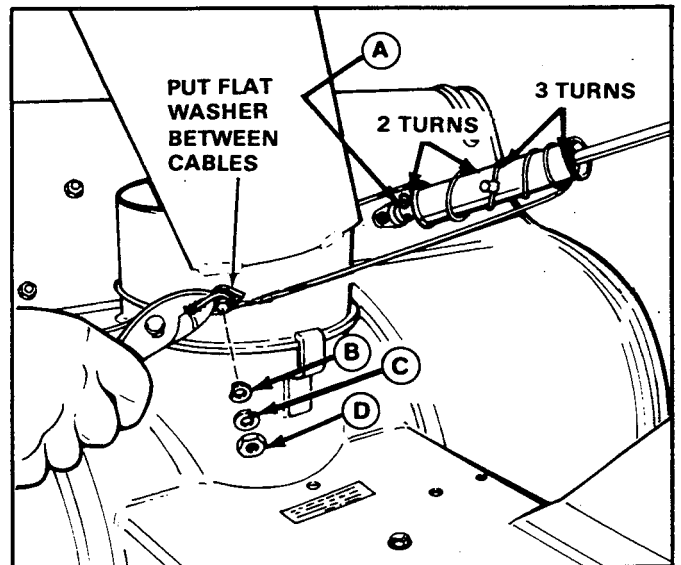

Figure 17. Install Control Cable
2. Insert the end of the spout control rod (H) through the plastic pivot bearing (D) on the auger housing. Place a cotter pin in the lowest rod hole on the inside of the housing. Spread the cotter pin fully around the rod. Pull the rod back so the cotter pin is up against the bearing and insert another cotter pin through the rod just above the bearing. Spread the cotter pin fully around the rod.
3. Place the thin plastic rod guide liner (B) inside the rod guide (J). Place the rod guide over the spout control rod and attach the rod guide to the support arm with the 1-1/2 inch (38 mm) long capscrew and locknut provided. Install the locknut flush with the end of the capscrew.
4. Install the spout extension (A) on the snowthrower housing so the clip (G) is positioned in the notch (I) on the spout extension. Oil the spout extension so it turns freely.
5. With the spout extension facing slightly left, wind the cable around the control rod spool as shown in figure 17. Wind three turns on the rear part of the spool so that the cable leaves the spool on the lower edge as shown. Wind two turns on the front part of the spool so that the cable leaves the spool on the upper edge as shown.
6. Place the looped end of the cable over the stud on the spout extension (see figure 17). Place the small flat washer provided on the stud. Pull the other end of the cable around the stud as shown with a pliers. While holding the cable tight, install the cup washer (facing inward), lockwasher and nut to hold the cable. Tape any loose cable neatly to the taut cable.